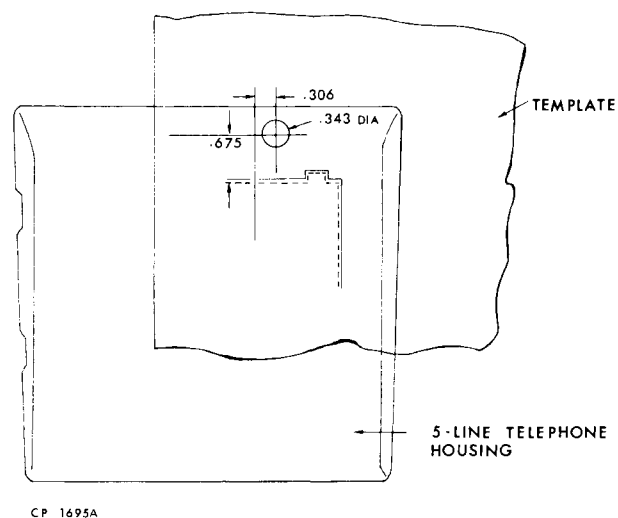

Figure 8. Locating Transfer Switch on Housing Face
c. With housing removed, place cutout template as shown in figure 8.